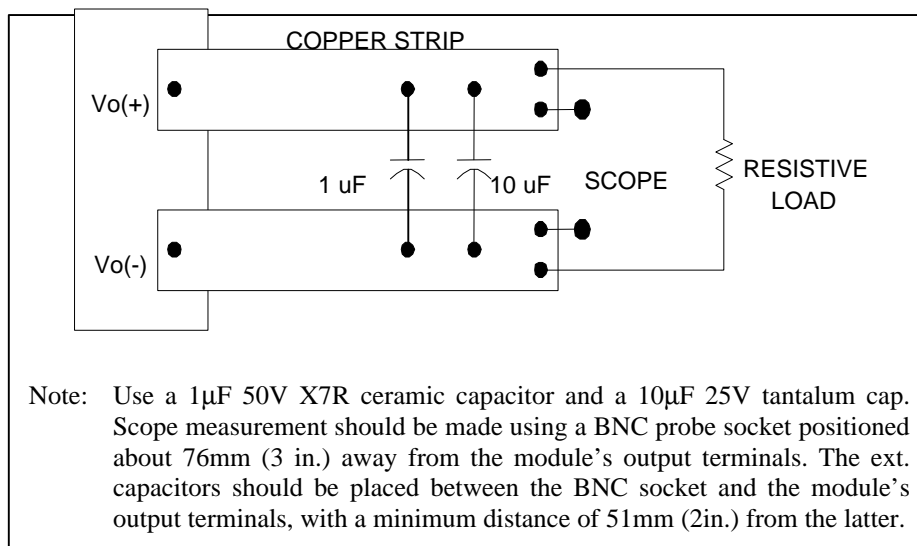

Figure 2. Peak to Peak Output Noise Measurement Setup.
5. Channel under test shall be set to full load with the other channel set to  $I_{O,min}$  - See Fig 2 for the recommended output ripple and noise test setup.